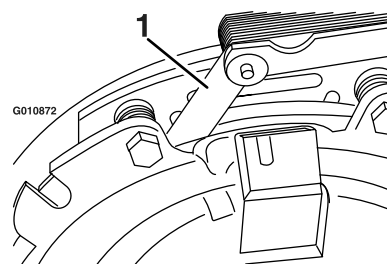
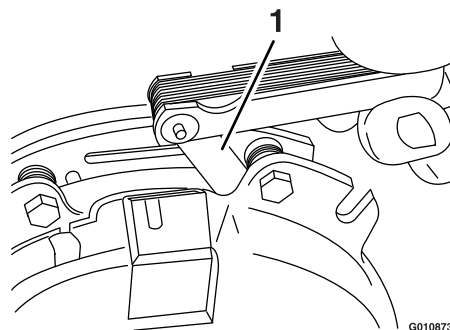

Figure 60
Figure 61
- E. Using a 0.010 inch thick-feeler gauge, verify that a gap is present between the rotor and armature face on both sides of the brake pole as shown in Figure 60 and Figure 61.